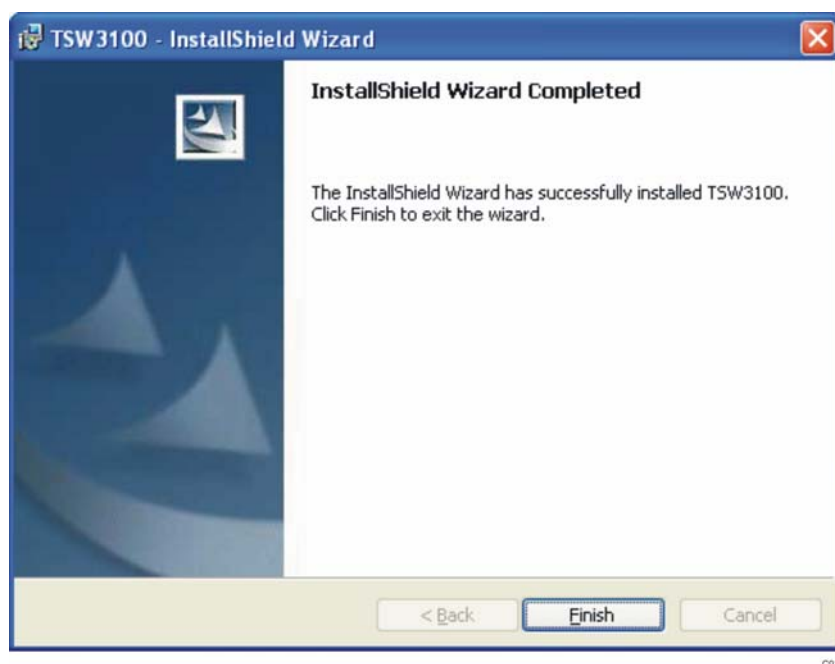

Figure 17. InstallShield Wizard Completed
6. Click *Finish* once the InstallShield Wizard Completed screen (Figure 17) displays.